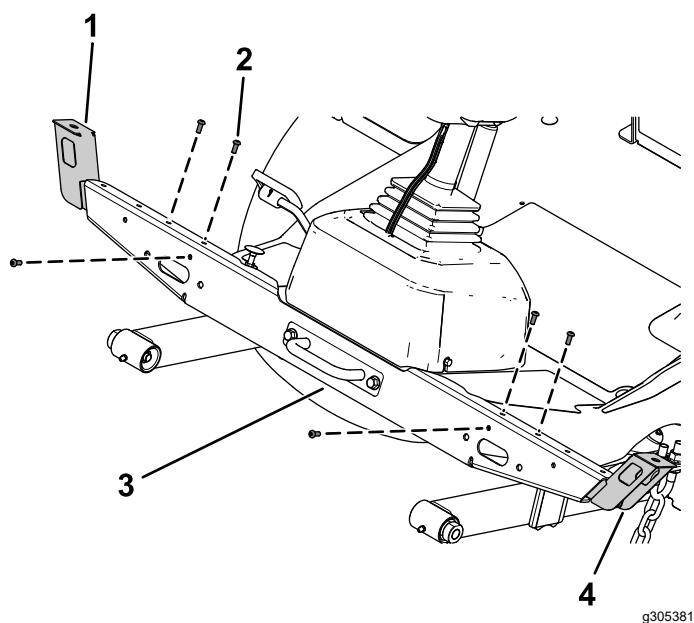

Figure 19
3. Secure the left light mount and right light mount to the light cross mount using 3 button-head bolts (1/4 x 5/8 inch) through the speed nuts on each side (Figure 19).